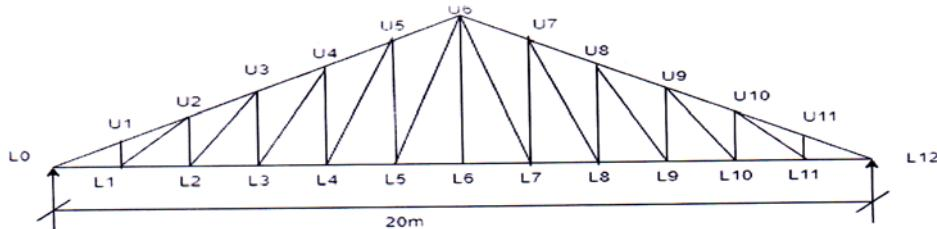

Figure 1
- Q5)** A truss as shown in figure 1 is having rise of 4m and spaced at 4m centre to centre used for an industrial building situated at Pune. The truss is covered with AC sheets of weight 180 N/m^2 . Calculate panel point dead load, live load and wind load. Design member LoU_1 and L_1U_1 . The design wind pressure is 876 N/m^2 and $(\text{C}_{pe} - \text{C}_{pi}) = \pm 0.8$. [18]